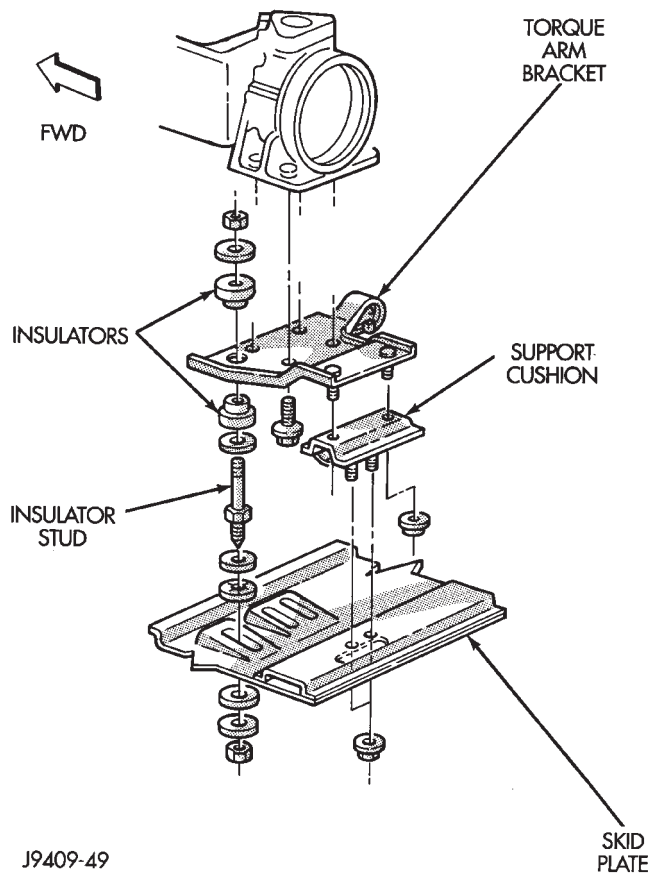

Fig. 11 Rear Mount—YJ Vehicles (Manual Transmission)
(1) Disconnect negative cable from battery.
(2) Raise the vehicle and support the transmission.
(3) MANUAL TRANSMISSION (Fig. 11):
(c) Position the insulator stud assembly and upper nut (Fig. 11). Position the skid plate to the studs of the support cushion and the insulator stud (Fig. 11). Install the support cushion stud nuts and tighten to 54 N·m (40 ft. lbs.) torque. Install the lower stud nut and tighten the upper and lower insulator stud nuts to 41 N·m (30 ft. lbs.) torque.